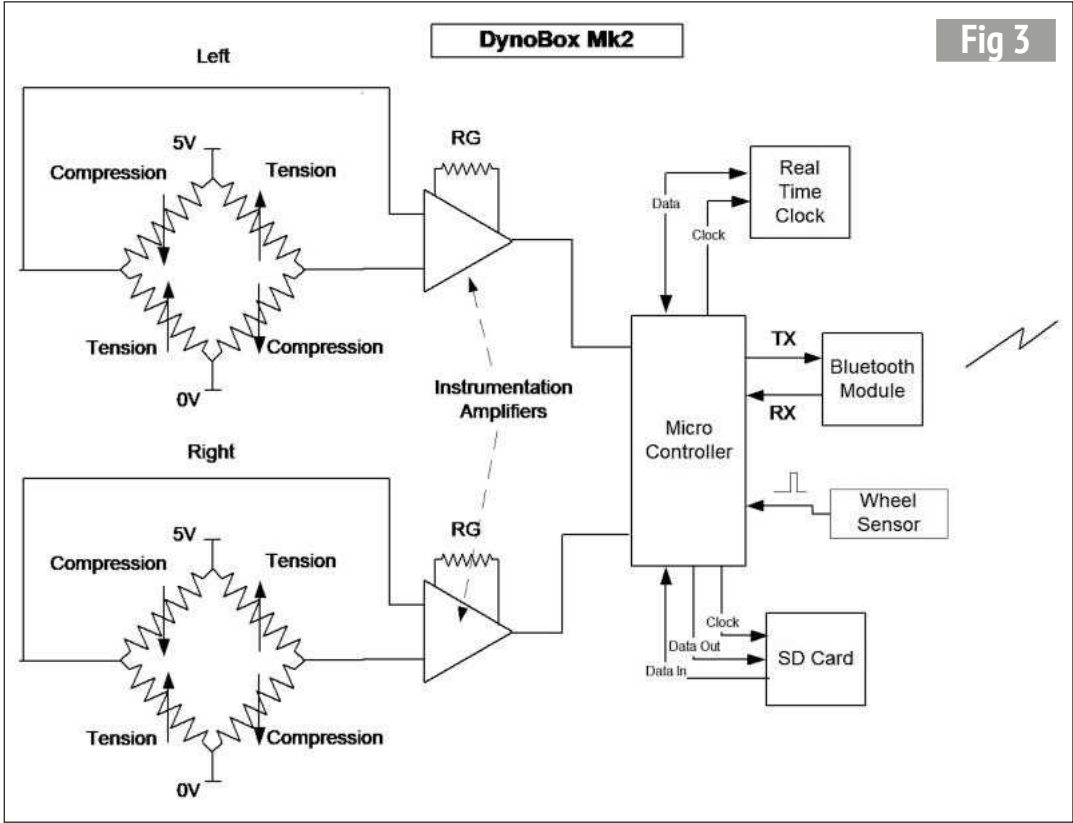

Fig 3
to Google where I found that the PIC micro manufacturers, Microchip, had this sorted with the code modules for a 'bitbang' I²C interface. Rather than have dedicated hardware provide the functions 'bitbang' interfaces just use the standard hardware input/output lines and software to provide the logic and timing (ref 6). I now had Bluetooth on RS232 serial, disk on SPI and RTC on I²C (fig 3).